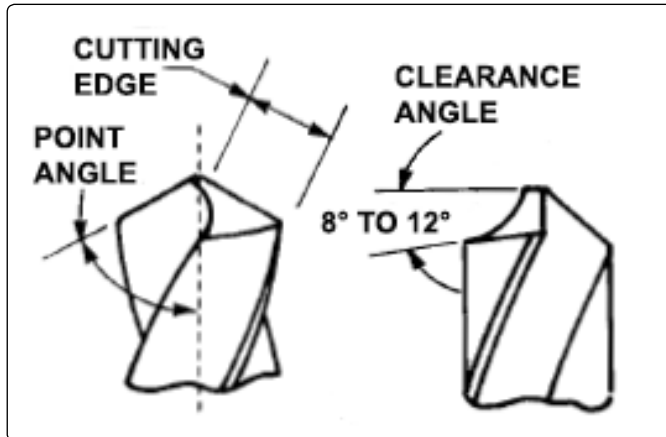

fig.5
- 5.3.5. There needs to be a definite clearance angle see fig.5.